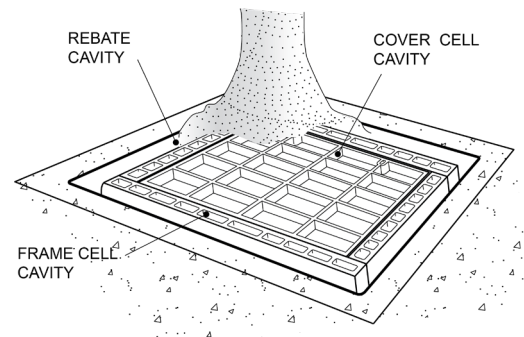

Figure 6
- Pour the concrete and tamp down to ensure all cavities in the rebate, cover, and frame cells are completely filled. (Figure 6)